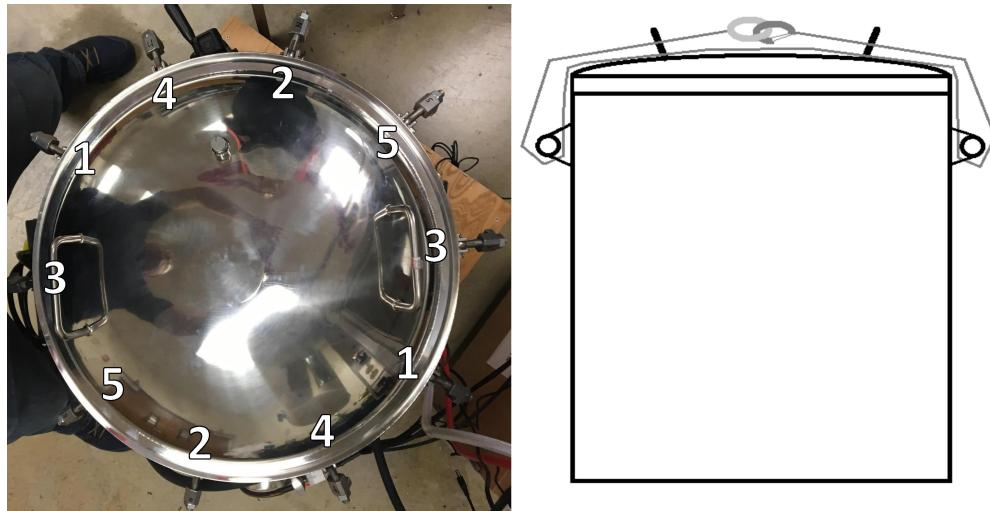

Figure 6: Securing the pressure vessel lid (Clamp numbering and Safety Cable Installation)
10. Using your other hand to keep the pressure vessel from rotating, tighten the clamps in opposing pairs following the numbering on the back of each clamp (See Figure 6) a 3/4" box wrench, tightening each clamp about 1/4 turn
12. Loop the safety cable through both lid handles and through the handles on both sides of the vessel and then back through the lid handles so the two ends meet then secure the two ends together (See Figure 6)